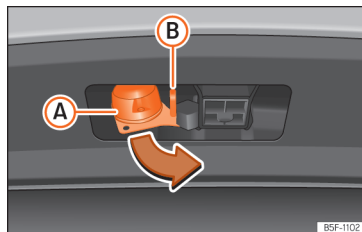

Fig. 179 Turning the 13-pin connector
- Grip the connector in area **A** and remove it in the direction of the arrow »» Fig. 179.
- Open the cover of connector **A** and connect the trailer »» Fig. 179.
- Hook the trailer's pair cable to the safety lug »» Fig. 179 **B**. When hooked up, the pair cable should have some **slack** in all vehicle towing positions (sharp curves, reverse, etc.).